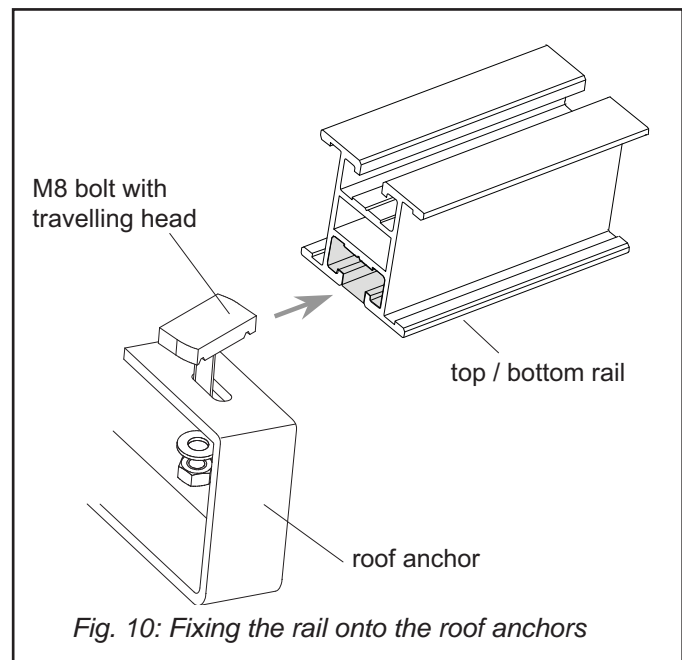

Fig. 10: Fixing the rail onto the roof anchors
- Align the travelling bolt head (Fig. 10) with the horizontal rail and shift the rail onto it, or shift the bolts into the rail first and fix to the anchors. Use serrated lock washers to fix the nuts.